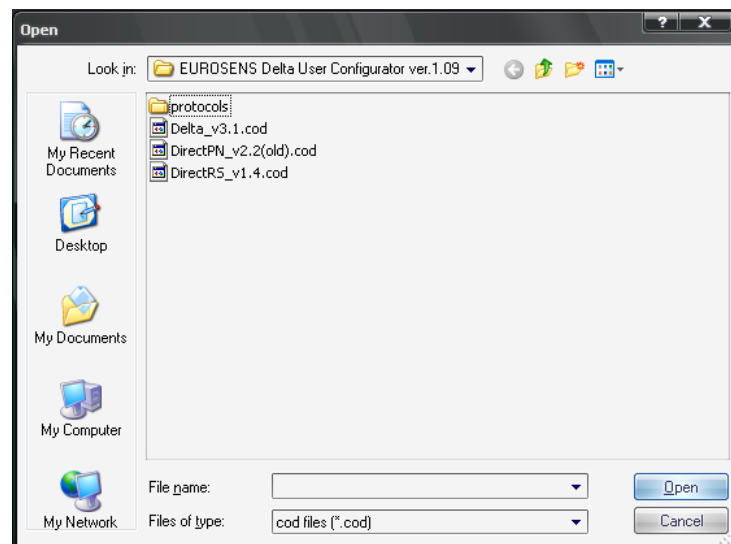

fig. 5.13. Selecting firmware file
- 3) press the button **“Firmware Update”** and select the firmware file (fig. 5.13) (Delta_... or Direct_... depending on the type of the flowmeter);